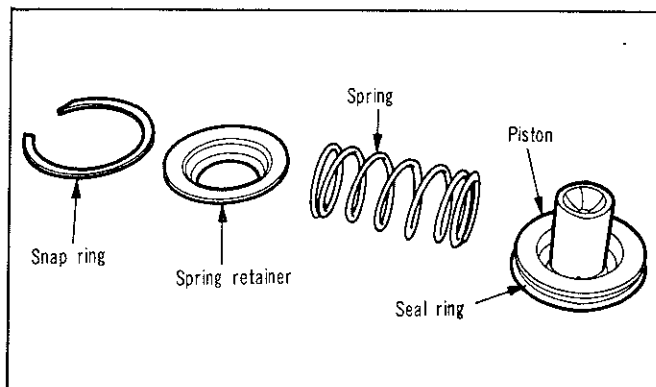
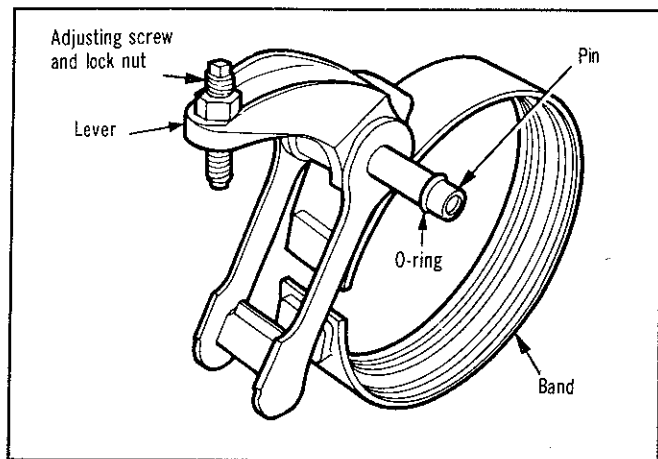

Fig. 63—Low and reverse servo
Fig. 64—Low-reverse band and linkage
(1) Remove snap ring from piston and remove the piston plug and spring (Fig. 63).
(1) Carefully work servo piston assembly into the case with a twisting motion. Place spring, retainer and snap ring over the piston (Fig. 63).
(2) Compress low and reverse servo piston spring by using engine valve spring compressor Tool E0092, then install snap ring.
(3) Position rear band in the case, install short strut, then connect long link and anchor to the band (Fig. 64). Screw in band adjuster just enough to hold strut in place. Install low-reverse drum.